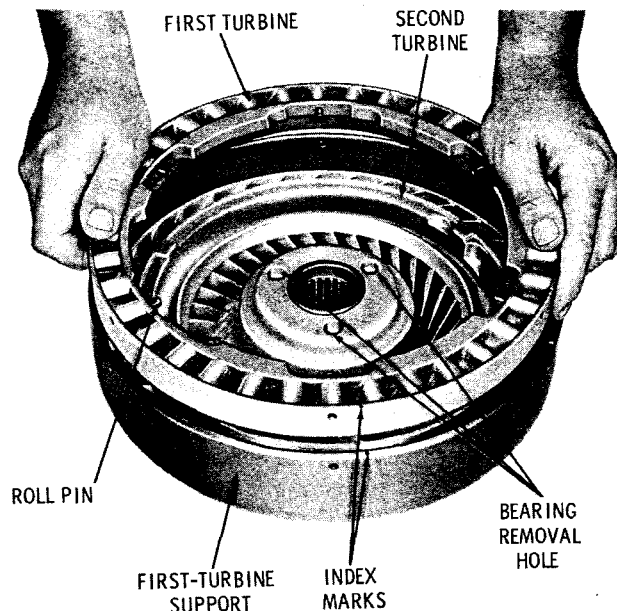

Fig. 6-3. Removing first turbine S2565
(3) Remove the first turbine from its support (fig. 6-3). Remove the second turbine and its bearing from the first-turbine support.
(4) Remove bearing 8 (A, foldout 3) from second turbine 6 only if replacement is necessary. If replacement is necessary, bearing 8 may be removed by pressing lengths of drill rod through the three removal holes in the hub of second turbine 6. Remove snapping 7 from second turbine 6 only if replacement is necessary.
(5) Remove bearing 1 from first-turbine support 3, only if replacement is necessary. If replacement is necessary, bearing 1 may be removed by pressing lengths of drill rod through the removal holes in the hub of first-turbine support 3.
(2) If bearing 8 was removed from the second turbine 6, install its replacement. Position the bearing, manufacturer's identification outward, and press the bearing firmly onto its seat in the turbine hub. If snapping 7 was removed, install its replacement.
(3) Install the second-turbine (and bearing) into the first-turbine support (fig. 6-3).
(4) Install the first turbine into the first-turbine support and align the V-groove index marks (fig. 6-3).
(5) Drive the six roll pins (nine in the 2421 model series) outward until they are flush with, to 0.030 inch (0.76 mm) below, the outer surface of the first-turbine support (fig. 6-3).